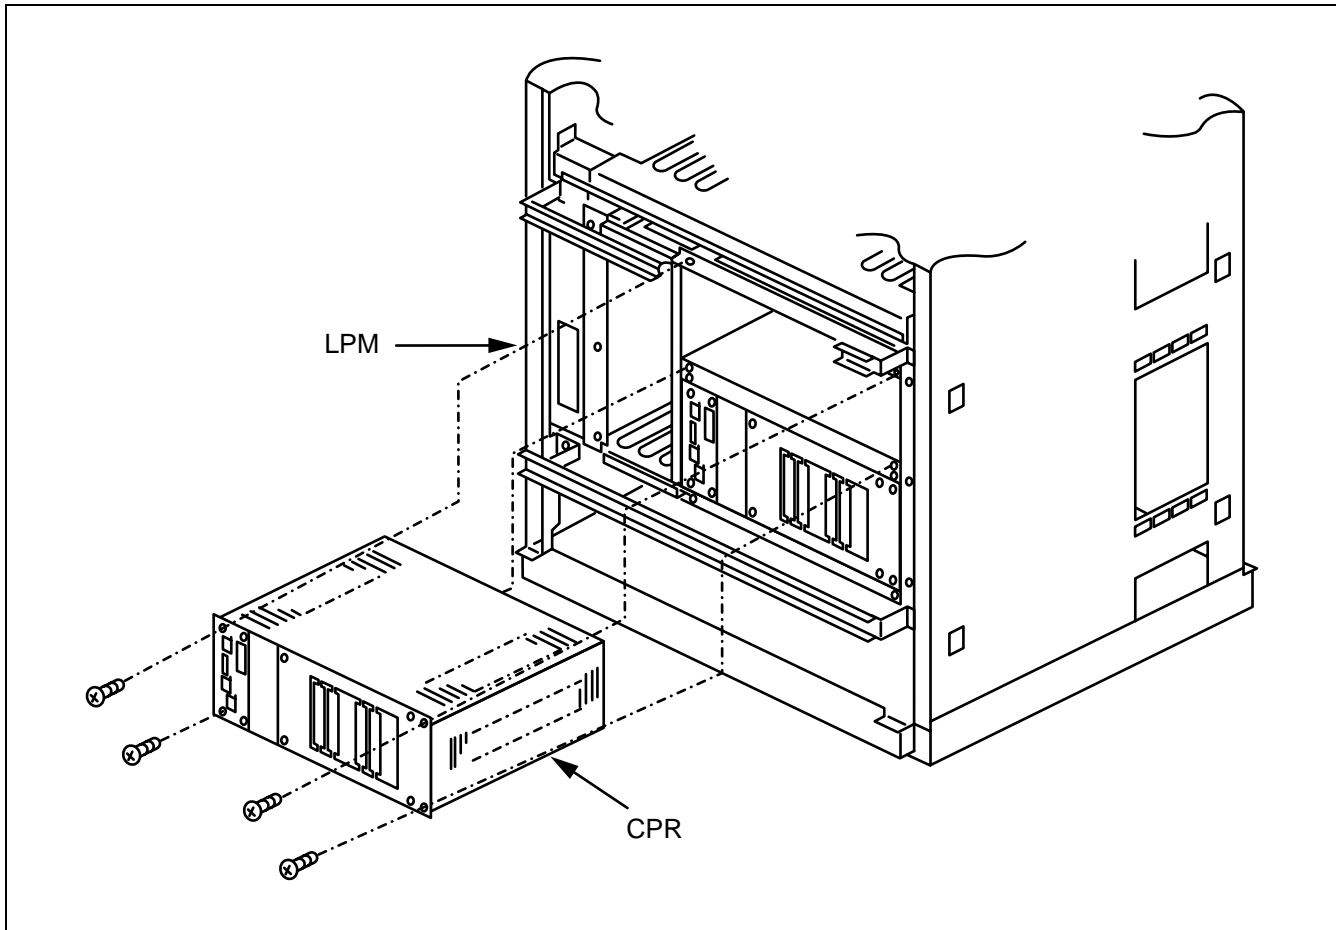

Figure 4-7 Accommodation of New CPR Into LPM
- (4) After turning ON the MBR key on the DSP of the new CPR, insert the new CPR into the LPM as shown in Figure 4-7. Then, fasten the retained four screws.